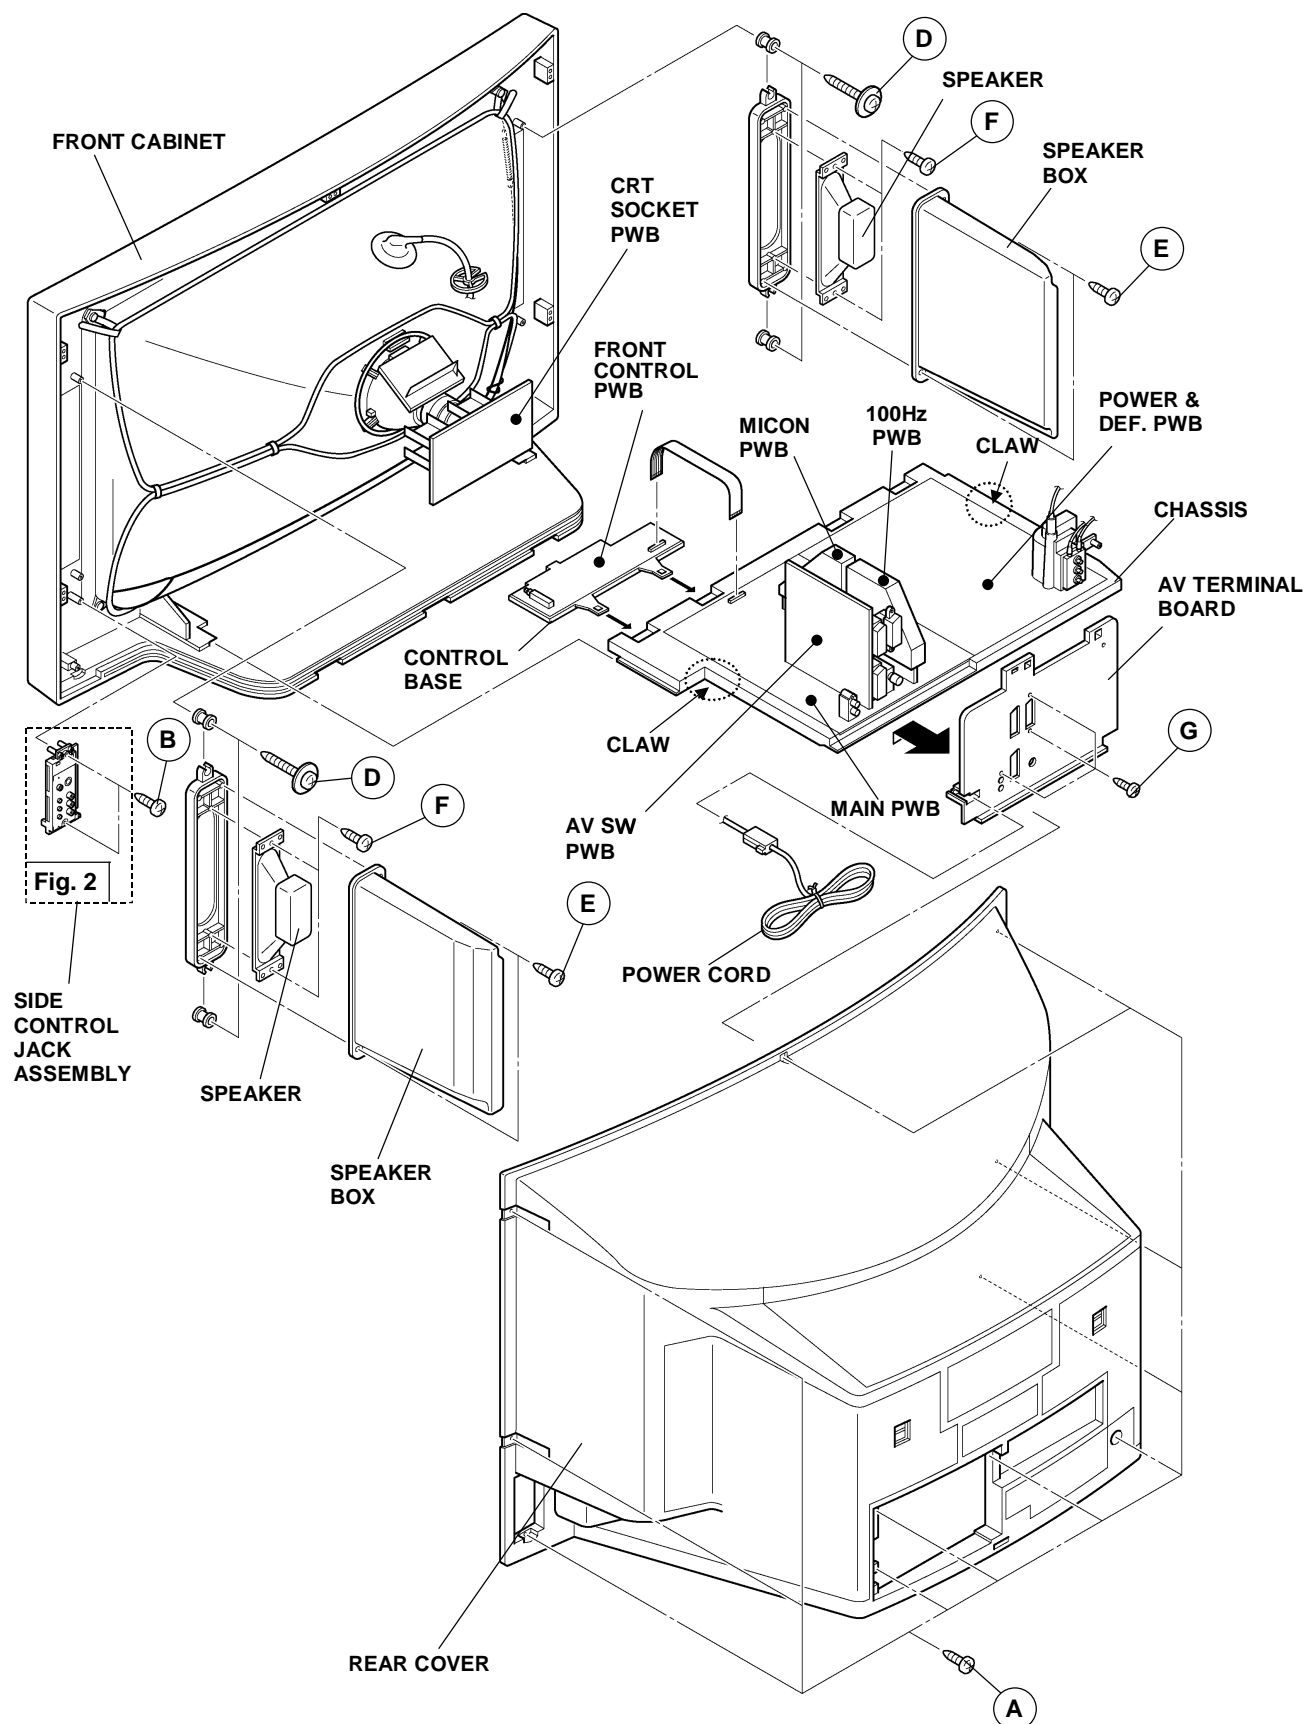

Fig. 1
1. As shown in Fig. 1, remove the 3 screws marked **G**.